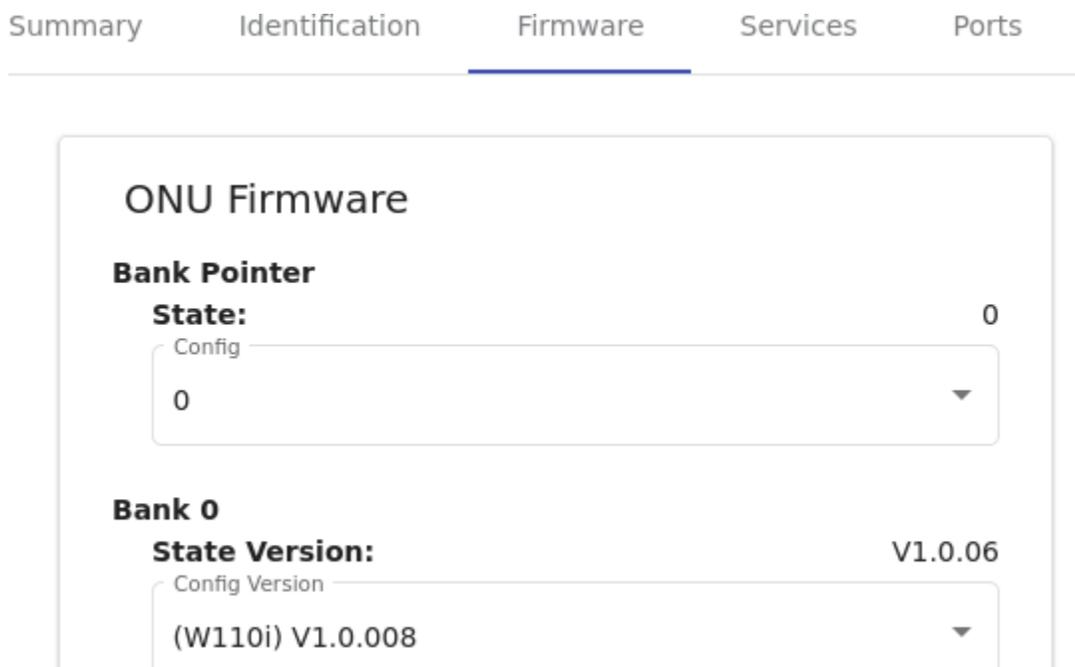

Figure 3.1-4
Since usually we firstly upgrade the backup bank, we configure the "bank pointer" to "State 1". As shown in Figure 3.1-4, it means that the current active running version is bank 1. What we are going to upgrade is bank 0. Click "Save". The ONU will be rebooted.
- After the ONU works normally again, go back to Network -> Topology to locate where the ONU is, then go to -> Firmware. Click "Edit", as shown from Figure 3.1-4, click the State Version from Bank 0 and choose the version to be upgraded, then Click "Save". The upgrade process should begin.